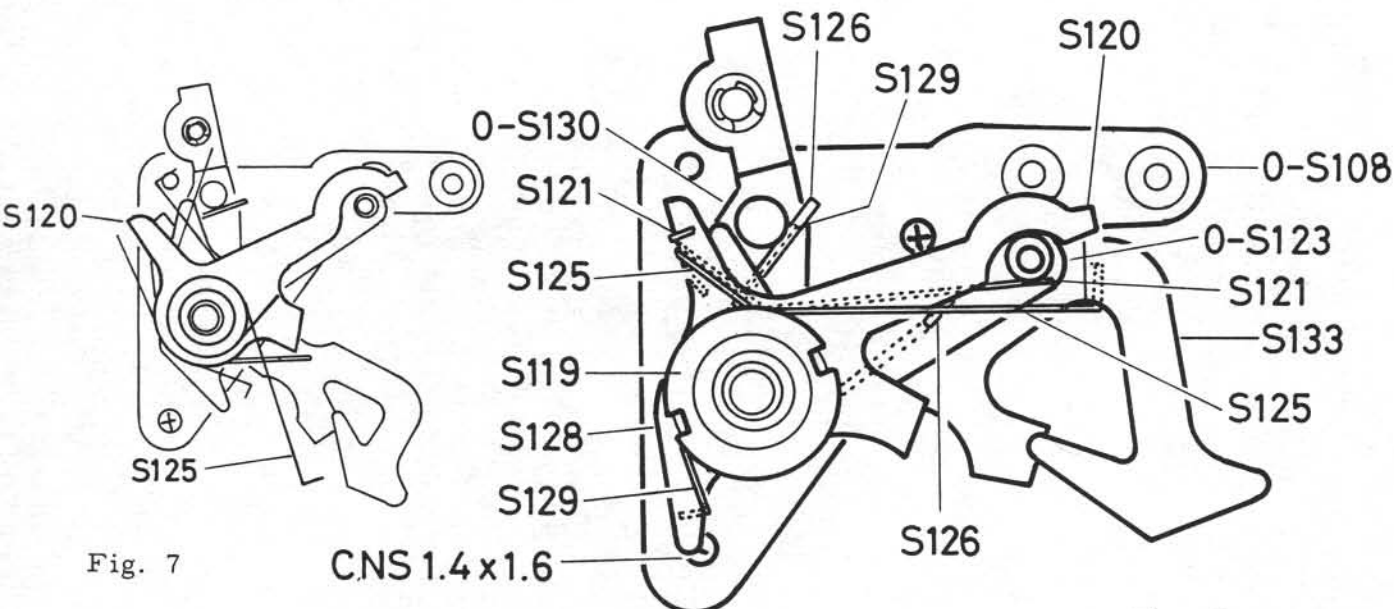

Fig. 8
- 2-15 Hook the springs at the proper positions. Refer to Fig. 8.